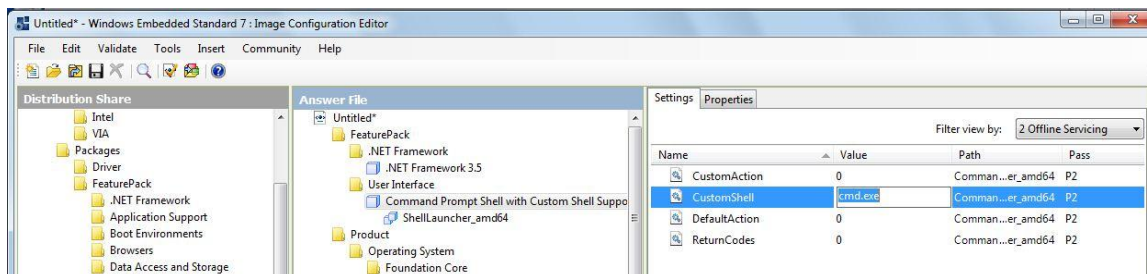

Figure 5-8 - Find Command Prompt Shell in Answer File
7. To configure the “Command Prompt Shell” to launch the SJJ Shell, in the Answer File pane under FeaturePack->User Interface, click on “Command Prompt Shell with Custom Shell Support”, Figure 5-8.